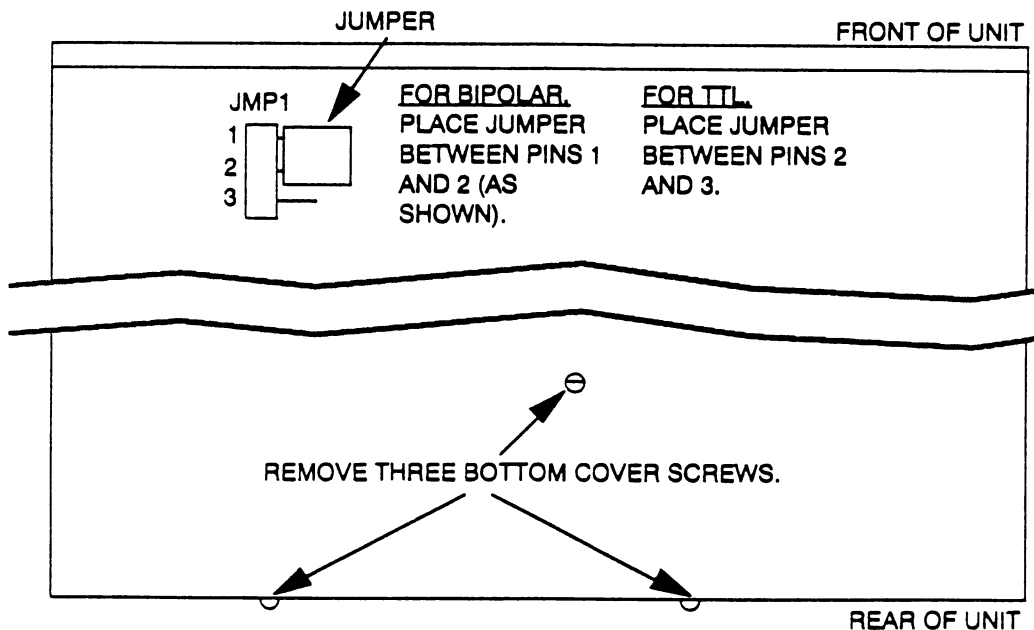

Figure 2-2. Trigger Source Selection
4. Change the jumper as shown in figure 2-2.